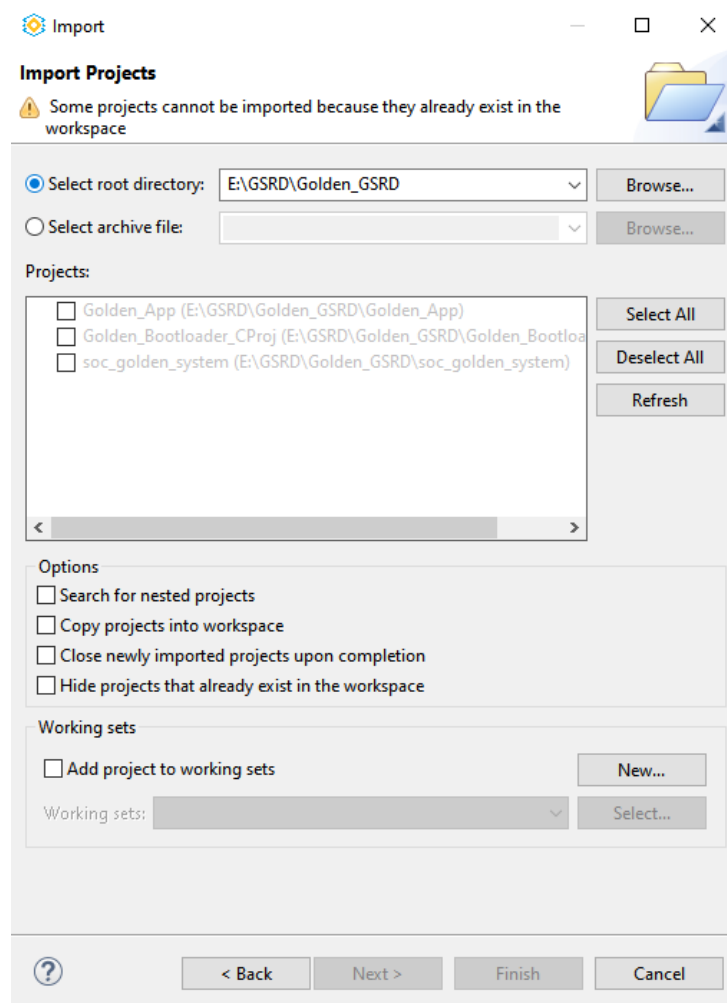

Figure A.23. Import Project
1. Right-click on the firmware project folder: *Golden_Bootloader_Cproj* and select the **Clean All** option as shown in Figure A.23 to clean the project before building.